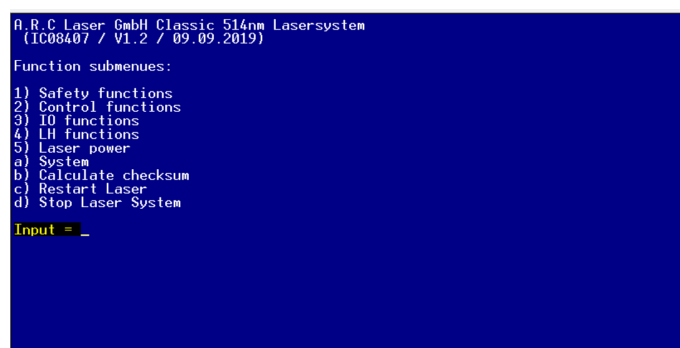

Figure 57: Main menu
- go back to the main menu with<ESC>. (Figure 57: Main menu)